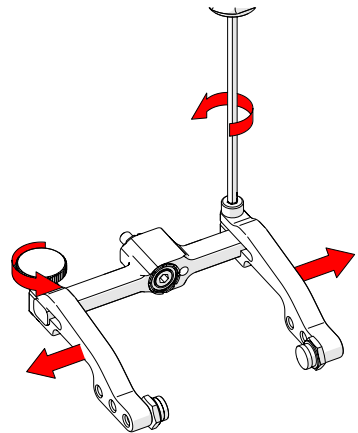

Fig. 138 - Remove probe holder arms
3. Loosen the probe holder arm adjustment knob and the arm clamp screw. Slide the probe holder arms off the yoke (Fig. 138).